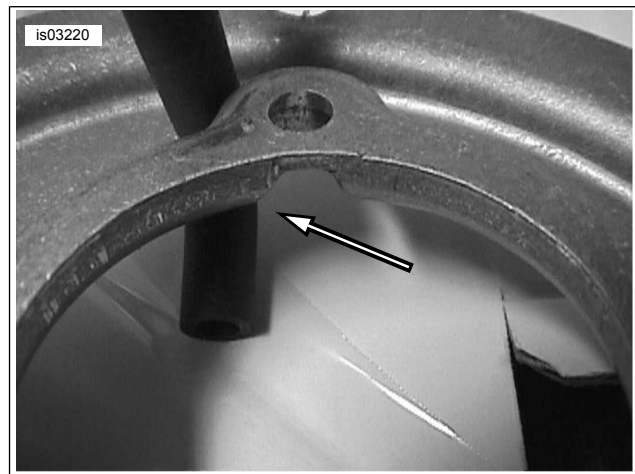
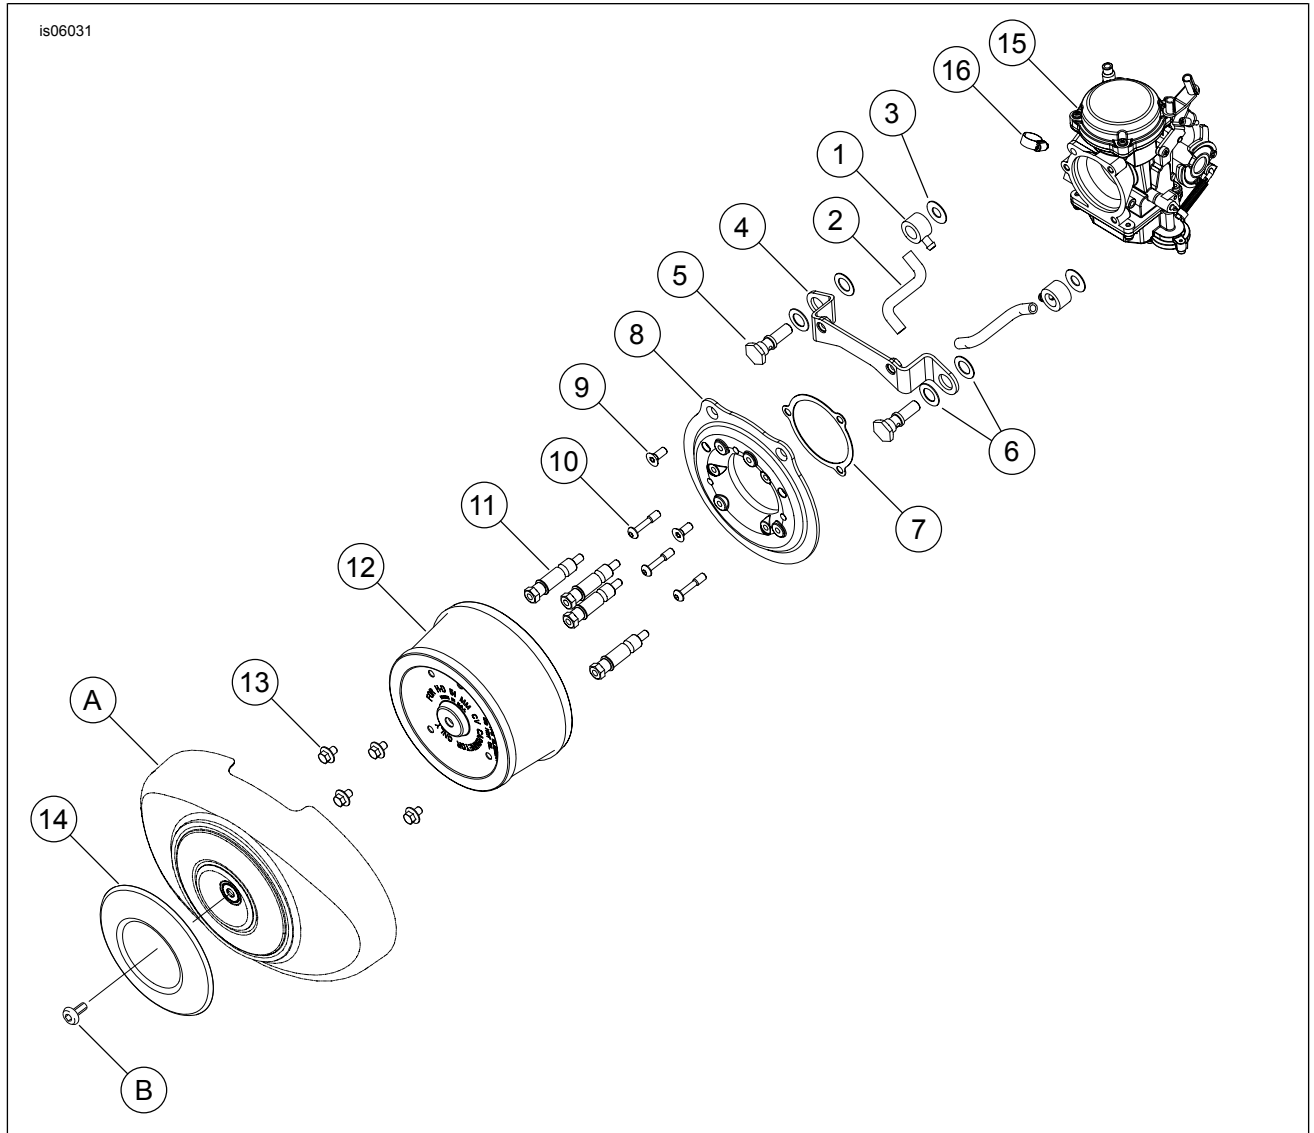

Figure 2. Install Breather Tubes into Rear of Backplate
Figure 7. Screamin' Eagle Super Bore 51mm CV Carburetor Kit
1. See Figure 7. Insert carburetor (15) into manifold following the instructions in the Service Manual. As the carburetor is being inserted, make sure the choke cable is not being kinked.
1. See Figure 7. Install one end of breather tube (2) onto fitting (1). Push until tube is tight up against the fitting body. Repeat for other breather tube and fitting.
2. See Figure 2. Lubricate breather tube (Figure 7, item 2) with soapy water and carefully insert it into rear of backplate (Figure 7, item 8). Continue to push until the first bend is clearly through the hole in the backplate. Repeat for other breather tube.
4. See Figure 7. Place large washer (6) onto banjo bolt (5), then apply Loctite 243 (blue) (15) to threads. Repeat for other banjo bolt and large washer.
5. See Figure 4 and Figure 7. Install each banjo bolt (with washer) through bracket, large washer, breather fitting, and small washer. Thread banjo bolts into tapped holes in cylinder head but do not tighten.
6. See Figure 7. Remove protective backing from backplate gasket (7) to expose the adhesive. Align gasket around opening in backplate (8) and smooth into place.
7. Thread screws (10) through backplate and gasket until screws are captured in plate. Apply Loctite 243 (blue) to threads and loosely install screws into carburetor flanges.
8. Apply Loctite 243 (blue) to threads of screws (9). Using a T-30 TORX drive head, secure backplate (8) to bracket (4). Tighten screws (9) to 55-60 **in-lbs** (6.2-6.8 Nm).
9. Tighten screws (10) to 55-60 **in-lbs** (6.2-6.8 Nm).
10. Reposition breather tubes (2) and fittings (1) previously installed as needed to provide adequate clearance for intake mechanisms behind backplate (16). See Figure 4. The barbed portion of fittings should be near horizontal, and breather tubes in front of backplate should be facing inward. Tighten banjo bolts (Figure 7, item 5) to 10-12 ft-lbs (14-16 Nm).
1. See Figure 7. Thread studs (11) into backplate (8) and tighten to 55-60 **in-lbs** (6.2-6.8 Nm).
2. Secure air filter element (12) to studs with screws (13). Tighten to 55-60 **in-lbs** (6.2-6.8 Nm).
3. Carefully remove and discard the original air cleaner cover insert from air cleaner cover (A). Remove any residual adhesive on the cover with mineral spirits.
5. Peel liner from adhesive backing of air cleaner cover insert (14). Position insert over air cleaner cover (A) without touching adhesive on cover surface. Line up top of insert with top of oval air cleaner cover.
1. See Figure 7. Remove air cleaner cover (A) and inspect the filter element (12) every 5000 mi (8000 km), or more often under dusty conditions.